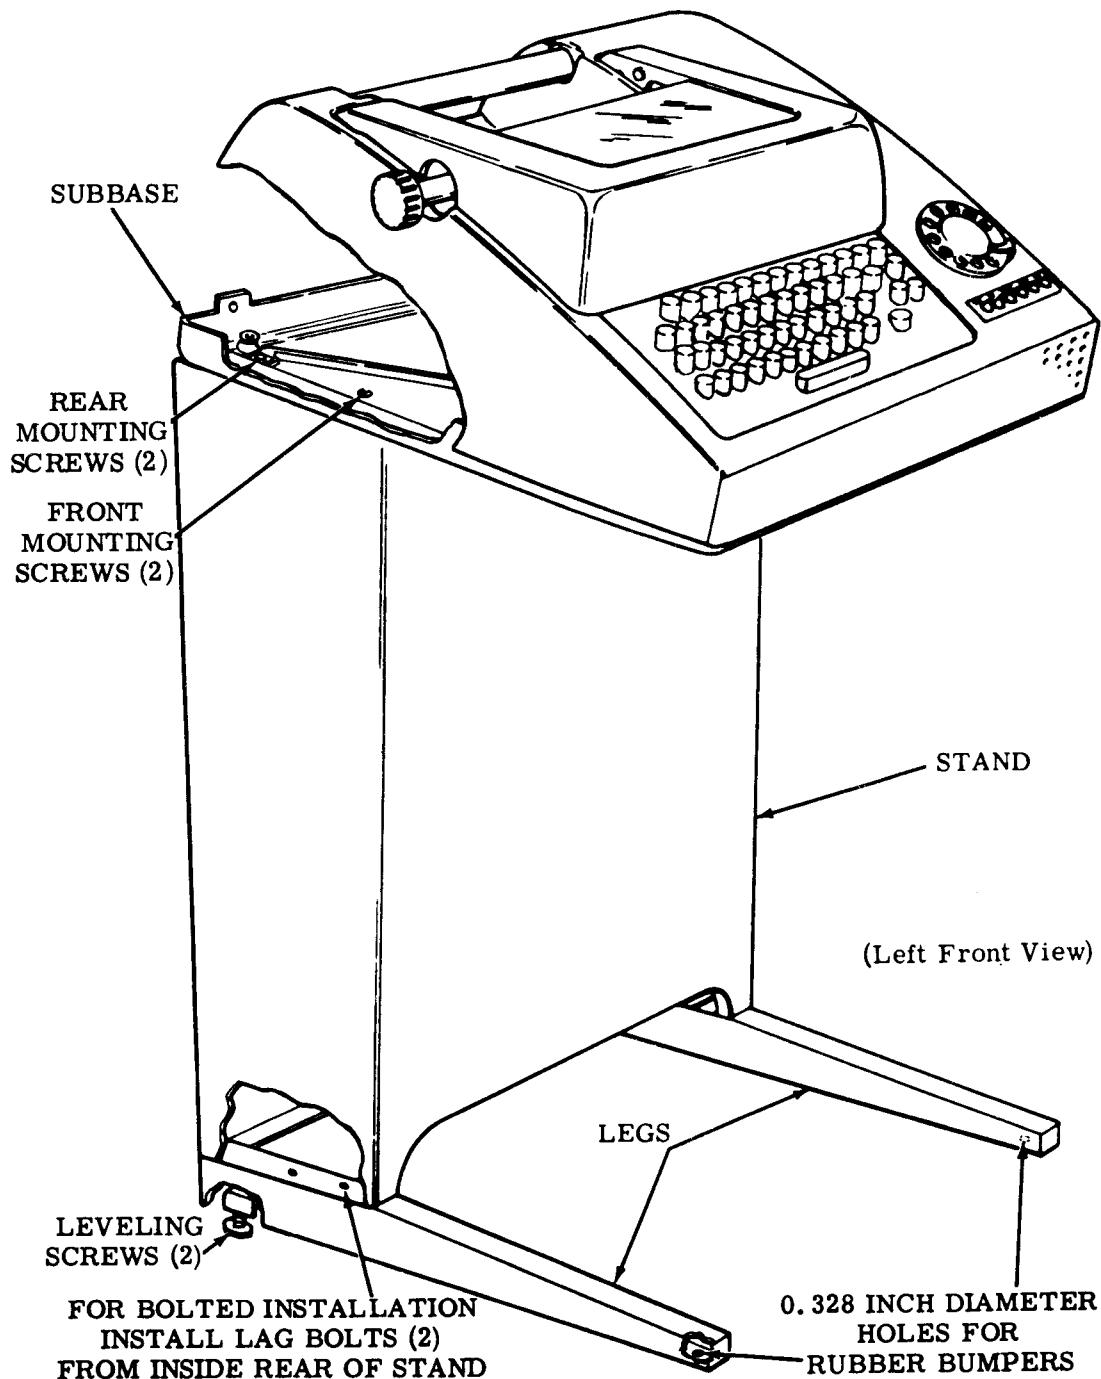

Figure 3 - Stand Leveling and Anchoring and Assembly of Subbase with Typing Unit to Stand
- 2.01 If the teletypewriter set is to be bolted to the floor, remove the front screw in each leg of the stand (Figure 3).